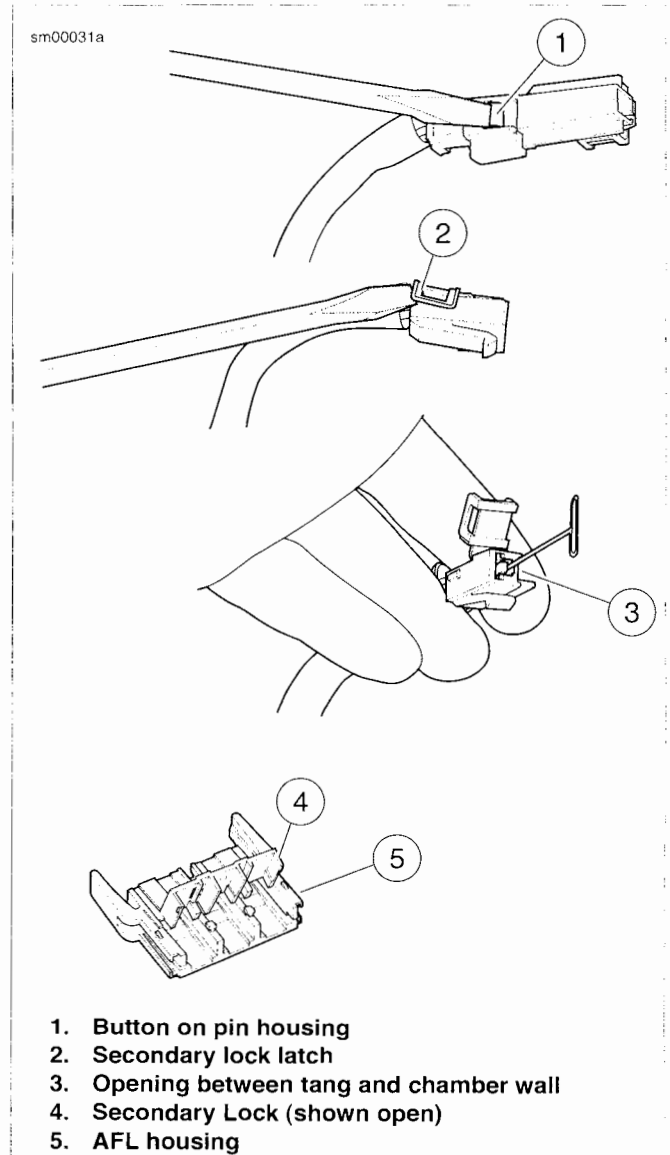

Figure A-39. 480 Metri-Pack Connector: Remove Socket Terminal
See Figure A-39. An AFL housing (5) is used on many ignition/light switches. The secondary lock (4) must be opened before removing the terminal from the housing.
See Figure A-39. Using small flat blade screwdriver, press button (1) on pin housing (red wire) side of the connector and pull apart the pin and socket housings.
1. See Figure A-39. Bend back the latch (2) slightly and free one side of secondary lock, then repeat to release the opposite side. Rotate the secondary lock outward on hinge to access terminal in chamber of connector housing.
2. On the mating end of the connector, note the tang in the square shaped opening centered next to the terminal. Gently insert the point of a stick pin or large safety pin into the opening (3) between the tang and the chamber wall until it stops.